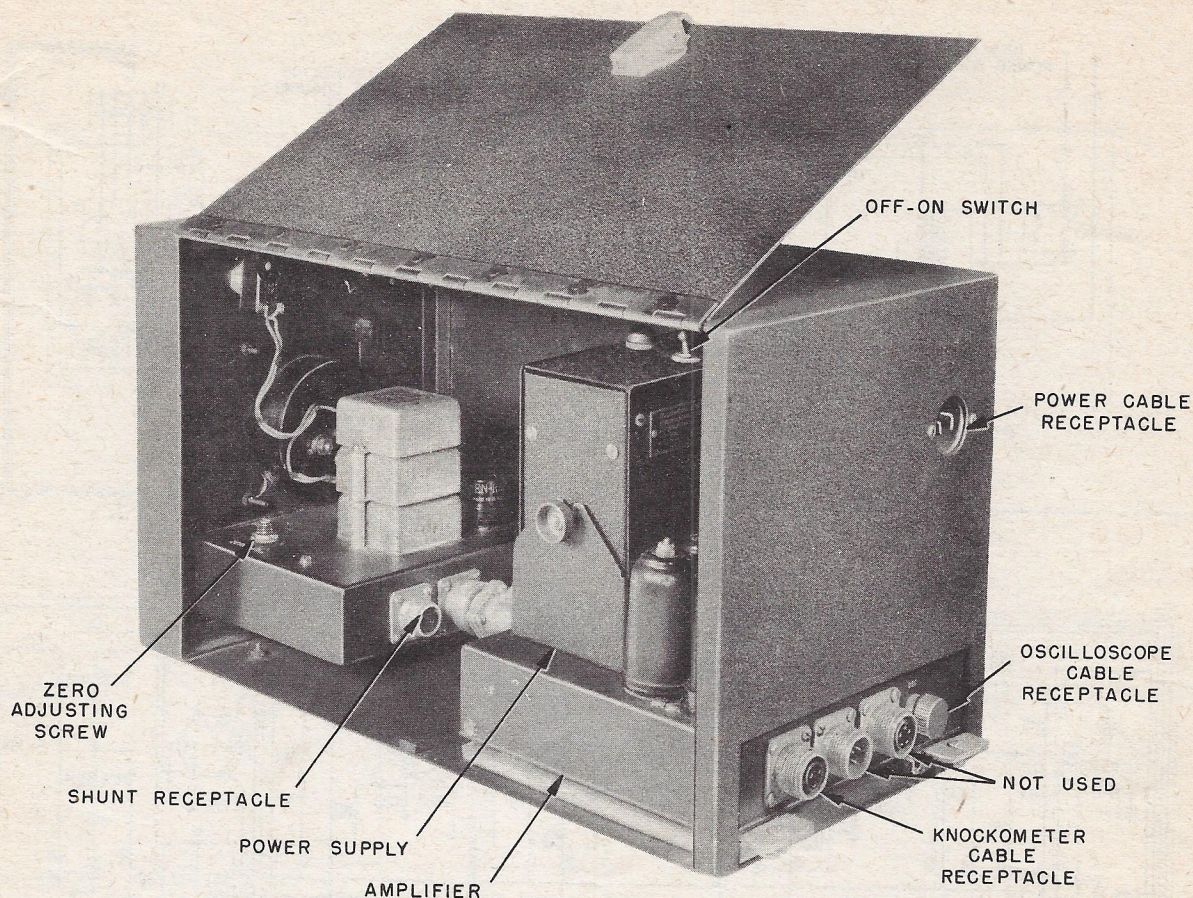

Figure 12 - The Knockometer (Rear View)
(1) POWER SUPPLY. (See figure 12.) - This unit is mounted on a separate chassis which plugs into the amplifier chassis. It modifies the 110-volt a-c input to a 250-volt plate supply for all tubes by means of a vacuum tube 117Z6GT. The 12-volt a-c filament supply for all tubes is obtained from a secondary winding on the power transformer.
(a) Mounted on top of this unit is the OFF-ON switch. (See figure 12.) It controls the circuit from the power supply switch to this unit. When pushed toward the meter indicator, it is in the "ON" position. A red jeweled lamp, adjacent to it, glows to confirm this fact. This switch should be in the "ON" position at all times.
(2) THE AMPLIFIER. (See figure 12.) - The amplifier is mounted on a separate chassis in the Knockometer cabinet and serves to amplify the signal voltage of the pick-up and at the same time keeps it at a constant level.
(b) A potentiometer zero adjusting screw (figure 12), mounted on the meter indicator chassis, sets the pointer to "0."
(c) A receptacle (figure 12) is provided on the rear of the meter indicator chassis for a plug which serves as a shunt to extend the meter range.
(4) RECEPTACLES. (See figure 12.) - On the side of the Knockometer opposite the meter indicator, five cable receptacles are provided. The power cable is plugged into the receptacle in the upper right half of the panel. Of the four lower ones, mounted on the amplifier chassis, the two inner receptacles, one for battery, the other for the indicator, are not presently used but await additional uses of the instrument. The receptacle for the oscilloscope is protected by a cover when not in use; the other receptacle accepts the Knockometer cable from the junction box.